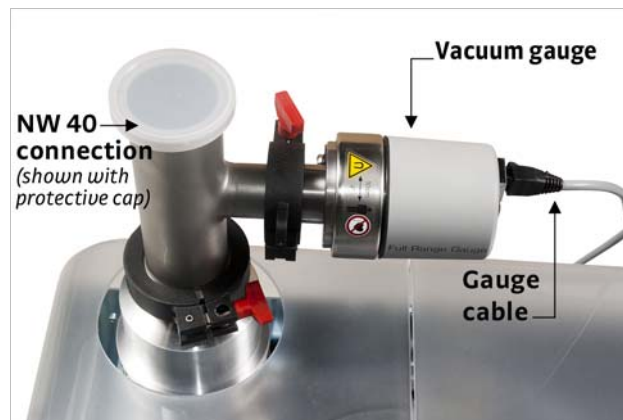

FIGURE 3-14 Vacuum gauge attachment
1. If the vacuum gauge is not already installed on the turbo vacuum pump as shown in FIGURE 3-14, remove the protective caps. Then use the provided NW 40 tee clamps and center rings to attach the gauge as shown in FIGURE 3-14.
2. Attach the supplied gauge cable to the connector (FIGURE 3-14). If not already done, attach the other end of the cable to the connector on the back of the turbo pumping system.